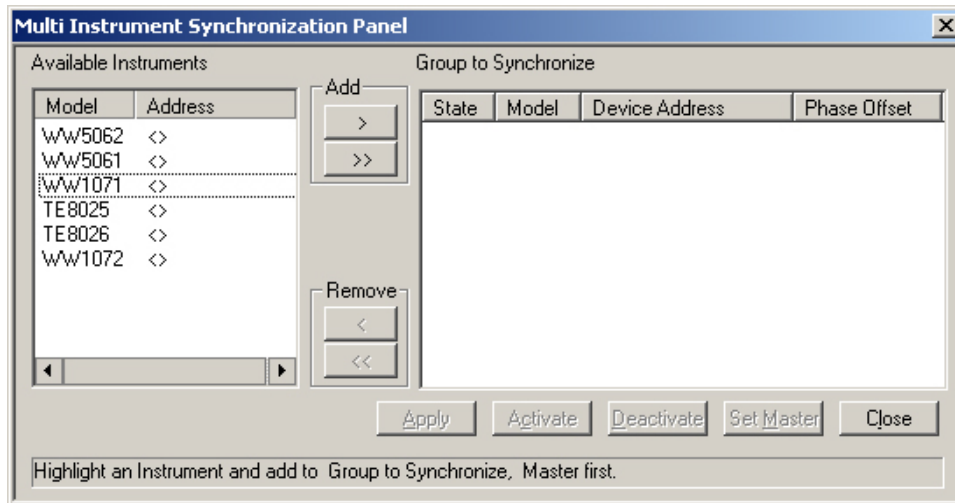

Figure 4-13, The Multi Instruments Synchronization Dialog Box
**Multi Instrument Control** The Multi Instrument Control group has three buttons: Set Configuration, Activate and Deactivate. The Activate and Deactivate toggle the synchronization function on and off and are done from the master instrument only. The configuration of the master and slave units is done from the Set Configuration dialog box that is invoked after you press the Set Configuration button. To configure master/slave operation, press the Set Configuration button. The dialog box, as shown in Figure 4-13 will display.